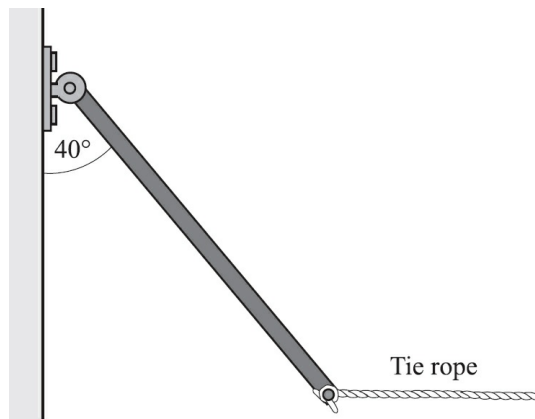

Fig. 5-14
- 5.23 [II]** Shown in Fig. 5-14 is a uniform 1600-N beam hinged at one end and held by a horizontal tie rope at the other. Determine the tension F_T in the rope and the force components at the hinge.